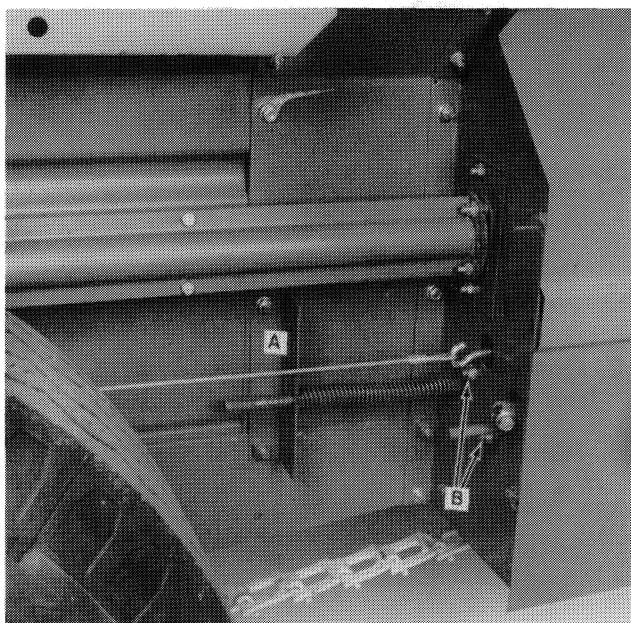

FIGURE 4
5. Remove spring retaining angle, A, and outboard bearing hardware, B, Figure 4.